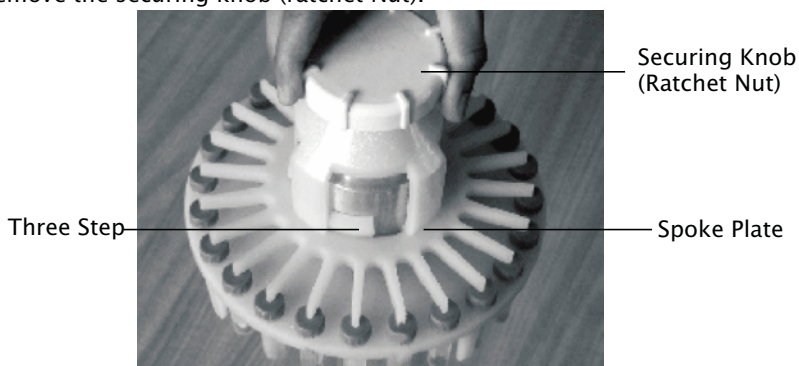

Fig. 3
1. Loosen the securing knob (Ratchet Nut) by rotating counter-clockwise until it come out (Ref. Fig. 3)